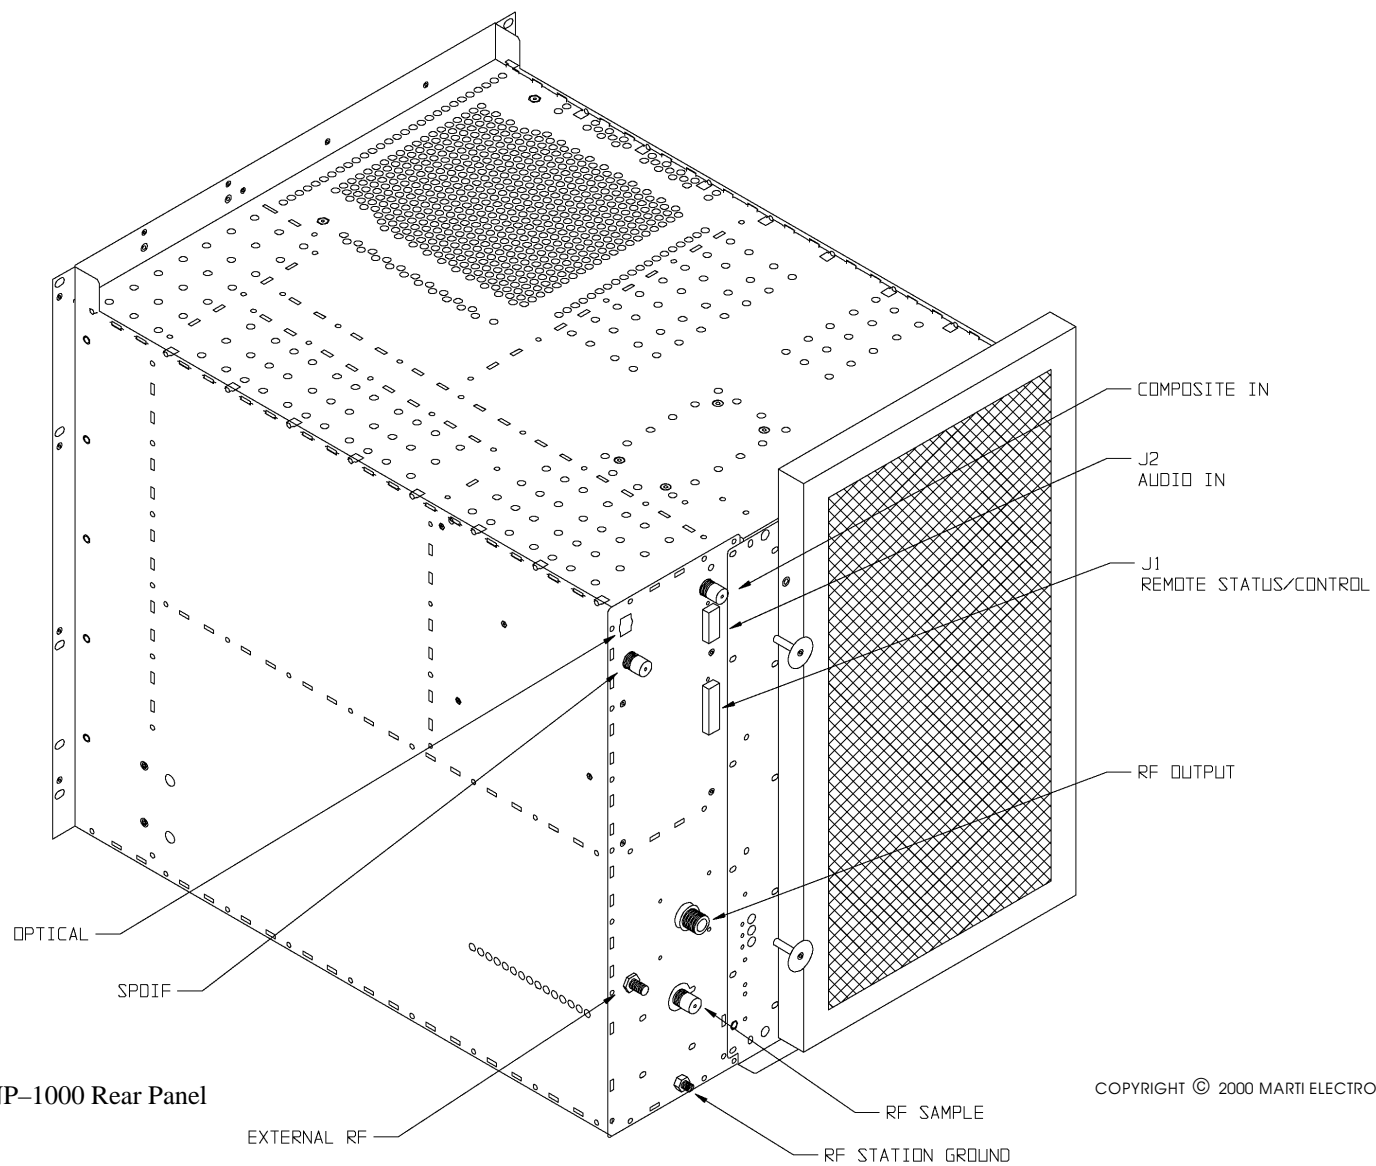

FIGURE 3. PNP-1000 Rear Panel
1. An AES/EBU wire input is interfaced to the PNP 1000 at remote interface connector J2. Connect the AES/EBU signal to J2-8 and J2-7. The AES/EBU signal is polarity independent. Therefore, the signal cables can be connected to J2-8 and J2-7 in any combination. Refer to Figure 3.
1. An AES/EBU optical input is interfaced to the PNP 1000 at DIGITAL IN OPTICAL connector U1. Connect the AES/EBU signal to DIGITAL IN OPTICAL connector U1. Refer to Figure 3
1. An S/PDIF input is interfaced to the PNP 1000 at DIGITAL IN S/PDIF connector J2 . A BNC-to-RCA pho no adapter is provided in the accessory kit. Refer to Figure 3 to install the adapter and connect the S/PDIF cable to DIGITAL IN S/PDIF connector J2.
1. An composite input is interfaced to the PNP 1000 at COMPOSITE IN connector J4. Connect the composite signal to COMPOSITE IN connector J4. Refer to Figure 3.
The transmitter is equipped with a failsafe input and the status is displayed on the front panel of the PNP-1000. This input is designed for the connection of a control device such as a remote control unit failsafe connection. The polarity of the input is controlled by a jumper going from J1-15 to J1-14 for negative control or J1-15 to J1-16 for positive control. If a failsafe connection is not required, a jumper must be connected at J1-17. To permit immediate on-air operation, the unit is equipped with a pre-wired 25-Pin D-Type interface connector. The connector is located in the accessory kit and contains a failsafe input jumper. To permit immediate operation, install the connector on J1. The unit will not operate unless the failsafe is closed. Refer to Figure 3.
The PNP 1000 is equipped with an **RF SAMPLE** receptacle. The sample port is for the connection of a modulation monitor or test equipment. The receptacle will provide 3.1V RMS at 1000 watts. Connect the desired equipment to the **RF SAMPLE** receptacle as required. Refer to Figure 3.
A Type-N RF output receptacle is provided for the connection of the antenna to the transmitter. Connect the antenna to the RF output receptacle. Refer to Figure 3.
The PNP 1000 is equipped with several audio inputs: 1) analog left channel and right channel, 2) AES/EBU wire, 3) AES/EBU optical, 4) S/PDIF, and 5) composite. The following text along with Figure 3 presents the procedure to connect and program the unit for the desired audio input.
An AES/EBU wire input is interfaced to the PNP 1000 at remote interface connector J2. Connect the AES/EBU signal to J2-7 and J2-8. The AES/EBU signal is polarity independent. Therefore, the signal cables can be connected to J2-7 and J2-8 in any combination. Refer to Figure 3.
An AES/EBU optical input is interfaced to the PNP 1000 at DIGITAL IN OPTICAL connector U1. Connect the AES/EBU signal to DIGITAL IN OPTICAL connector U1. Refer to Figure 3.
An S/PDIF input is interfaced to the PNP 1000 at DIGITAL IN S/PDIF connector J2. A BNC-to-RCA phono adapter is provided in the accessory kit. Install the adapter and connect the S/PDIF cable to DIGITAL IN S/PDIF connector J2. Refer to Figure 3.
A composite input is interfaced to the PNP 1000 at COMPOSITE IN connector J4. Connect the composite signal to COMPOSITE IN connector J4. Refer to Figure 3.